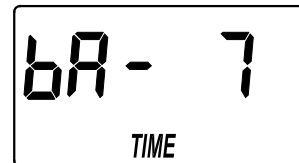

FIG. 26
2. Press the SELECT/MENU button twice, so that "bA TIME" appears in the display (See Figure 26).